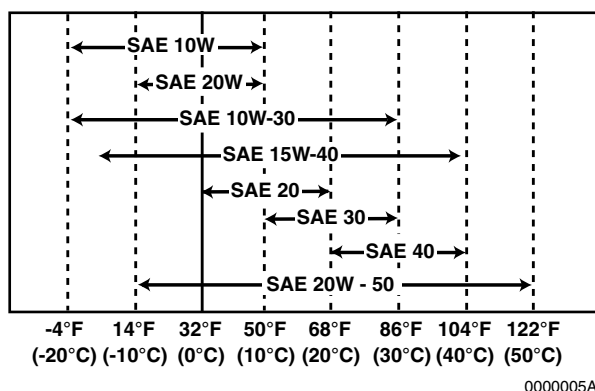

Figure 4-4
- Select the oil viscosity based on the ambient temperature where the engine is being operated. See the SAE Service Grade Viscosity Chart (**Figure 4-4**).
Select the appropriate engine oil viscosity based on the ambient temperature and use the SAE Service Grade Viscosity Chart in **Figure 4-4**.